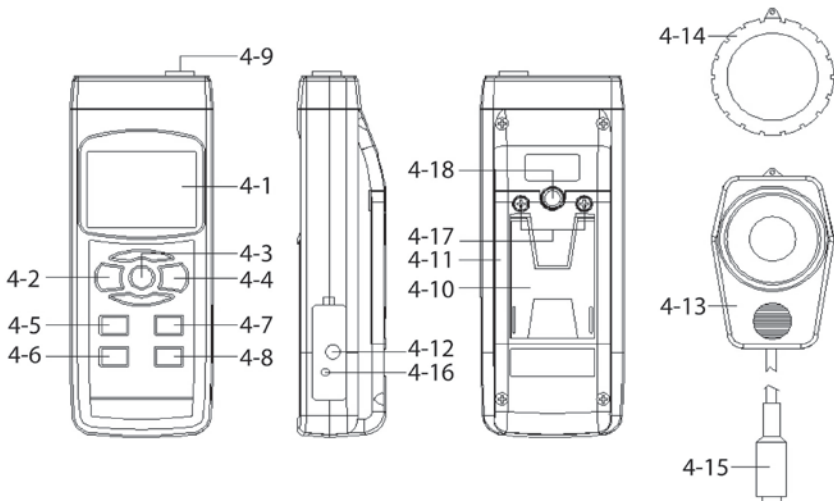

Fig. 1
1. Push the "Power Button" (4-2, Fig. 1) to power on the instrument. The meter will perform a short self-test before measurements can be taken.
2. Select the desired unit of measurement by pressing the "Lux/Fc Button" (4-5, Fig. 1). The display will indicate the selected unit of "Lux" or "Ft-cd".
3. Determine the lighting type (Tungsten, Fluorescent, Sodium or Mercury lamp) by pressing the "Light Source Select Button" (4-8, Fig. 1). For unknown light types we recommend you use Tungsten
4. Select the max range by using the "Range Button" (4-6, Fig. 1)
5. Position the "Light Sensor" (4-13, Fig. 1) directly under the light source.
- a. Cover the "Light Sensor" (4-13, Fig. 1) using the "Sensor Cover" (4-14, Fig. 1). **Do not** remove the "Sensor Cover".
- c. Pushing the "Zero Button" (4-7, Fig. 1) will zero out the LCD display.
- a. During measurements, press the "Hold Button" (4-3, Fig. 1). The data on the LCD display will be held and the "HOLD" symbol will be displayed.
- a. During a measurement press and hold the "Hold Button" (4-3, Fig. 1) for at least 3 seconds. The meter will now only display and hold the largest measured value along with the "Peak HOLD" indicator.
- b. To clear the peak value momentarily press the "Hold Button" (4-3, Fig. 1).
- c. To turn off the Peak Hold function, press and hold the "Hold Button" (4-3, Fig. 1) for at least 3 seconds.
- a. The data record function records the maximum and minimum readings. Press the "REC Button" (4-4, Fig. 1) to start the data record function.
- b. With the "REC" symbol on the display momentarily pressing the "REC Button" (4-4, Fig. 1) will toggle between Max and Min recording.
- c. To exit the memory record function, press and hold the "REC Button" (4-4, Fig. 1) for at least 3 seconds.
- d. Note: To delete the displayed value while recording, just press the "Hold Button" (4-3, Fig. 1) until the display clears the data leaving the "REC" symbol.
To disable this function, select the memory record function during a measurement by pressing the " REC. Button" (4-4, Fig. 1).
This instrument has RS232 PC serial interface via a 3.5 mm terminal (4-12, Fig. 1).
2. Open the "Battery Compartment" (4-11, Fig. 1) by first loosening the "Battery Cover Screws" (4-17, Fig. 1).
3. Replace the batteries with "good" batteries noting the correct polarity. Replace "Battery Compartment" (4-11, Fig. 1) and "Battery Cover Screws" (4-17, Fig. 1). Ensure the cover is securely fastened.